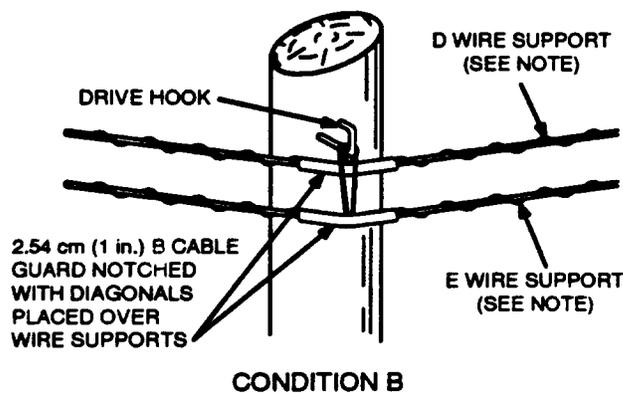

Figure 14. Parallel Runs on Same Line
- **CONDITION A** (Figure 14) shows an attachment at an in-line pole or pull away from the pole at corners up to 3.05 meters (10 feet) of pull.
- **CONDITION B** (Figure 14) shows attachments at outside corners with up to 3.05 meters (10 feet) of pull.